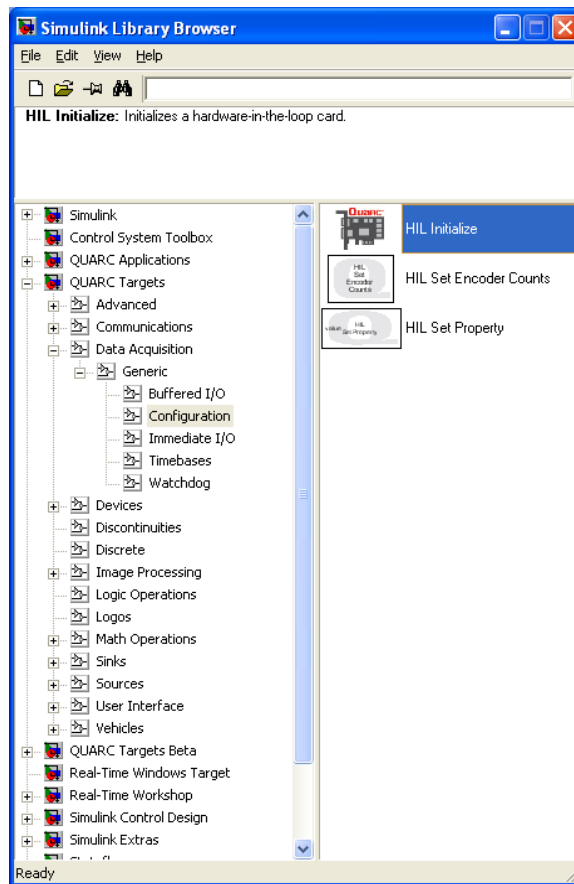

Figure A.2: QUARC Targets in Simulink® Library Browser
4. Expand the **QUARC Targets** item and go to the Data Acquisition | Generic | Configuration folder, as shown in Figure A.2.